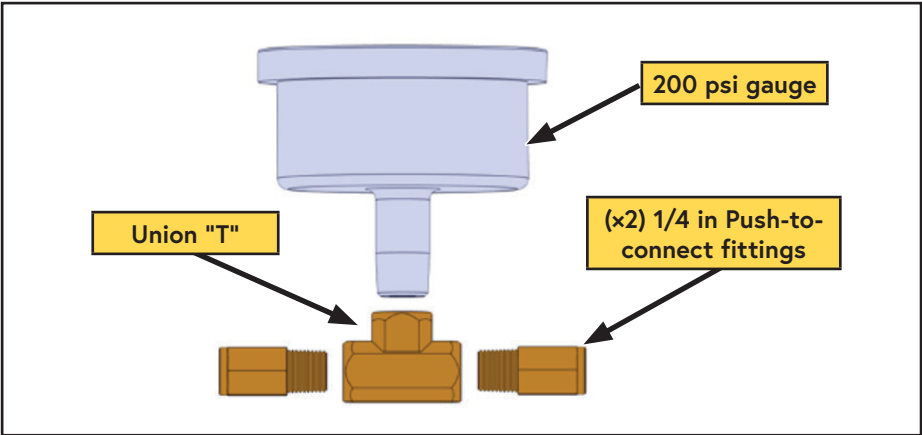
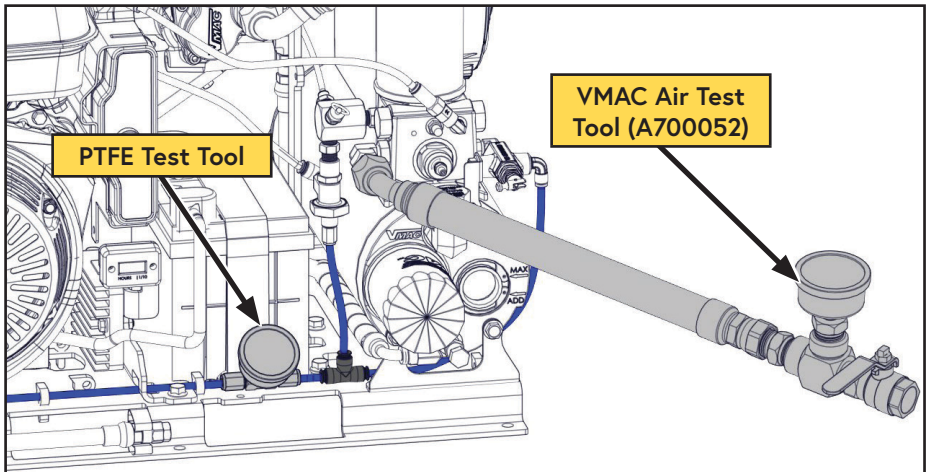

Figure 47 — PTFE Test Tool
Figure 60 — Test equipment installed
A PTFE test tool can be constructed and used to test the unloader valve and throttle actuator function (Figure 47).
- ☐ Install a test tool on the system outlet (Figure 60).
- ☐ Install the PTFE test tool (Figure 47 on page 73) on the 1/4 in throttle tube on the engine side of the 1/4 in PTFE Union (Figure 60).